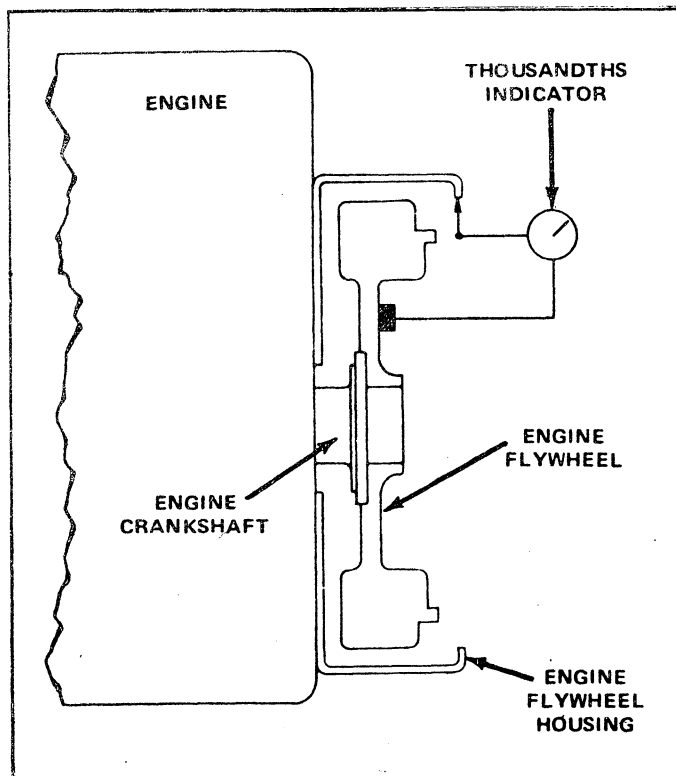

Figure 9-12. Checking the bore of engine flywheel housing.
3. With the indicator mounted as in the above paragraph, adjust the indicator stem so that it will ride on the bore of the engine flywheel housing. See figure 9-12.